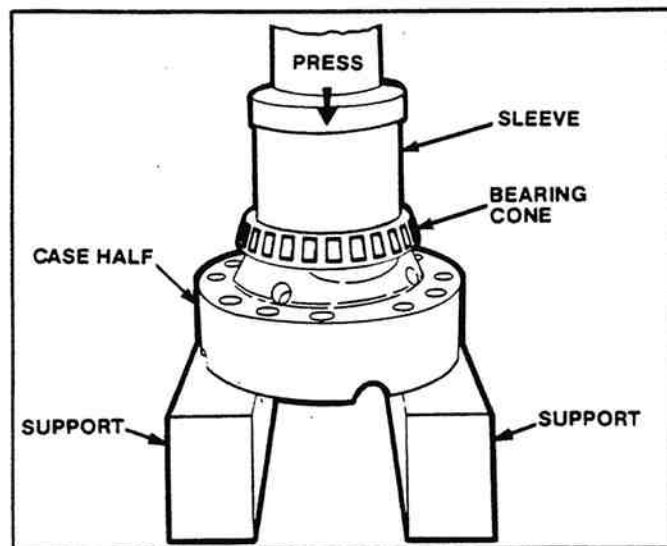

Figure 2-65. Installing Bearing Cones.
8. Install the bearing cones on both of the case halves. Use a press and sleeve of the correct size (Figure 2-65).